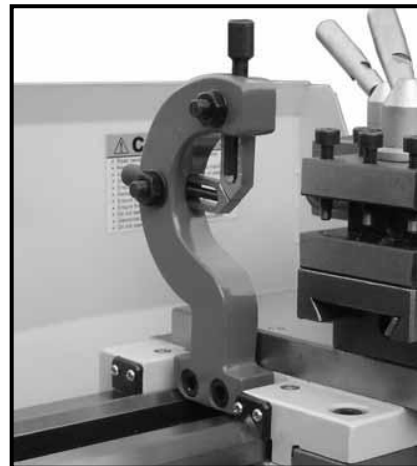
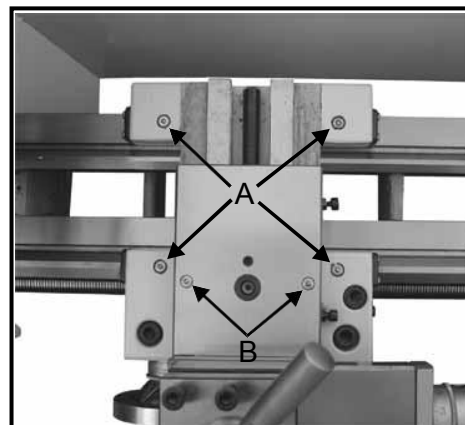

Fig. 31
Fig. 36
1. Loosen three hex nuts. (A, Fig.31)
2. Loosen knurled screw (B, Fig.36) and open the sliding fingers. (C, Fig.31) until the steady rest can be moved with its finger around the workpiece. Secure the steady rest in position.
3. Tighten knurled screws so that fingers are snug but not tight against the workpiece. Tighten three nuts (A, Fig.31). Lubricate the sliding points with machine oil.
The follow rest is mounted on the saddle and follow the movement of the turning tool. Only two sliding fingers are required. The place of the third finger is taken by the turning tool. The follow rest is used for turning operations on long, slender workpieces. It prevents flexing of the workpiece under pressure from the turning tool. (Fig.31)
Lubricate Four oil ports (A, Fig. 36) with 20W machine oil once daily.
Lubricate two oil ports (B, Fig. 36) with 20W machine oil once daily.